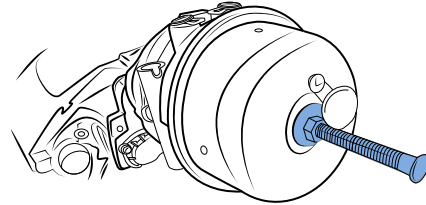

Figure 42 - Parking brake chamber
5. Turn release bolt clockwise (1/4 turn) to lock its head in the "T-slot" receptacle of the brake chamber (Figure 42).